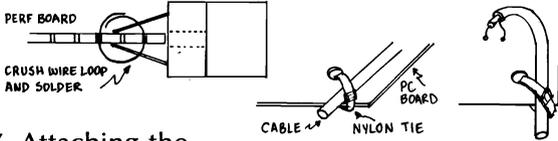

Figure 1.7. Attaching the
3. Tighten and then crush the loop with a pair of pliers to make it support the board. See Fig. 1.7.